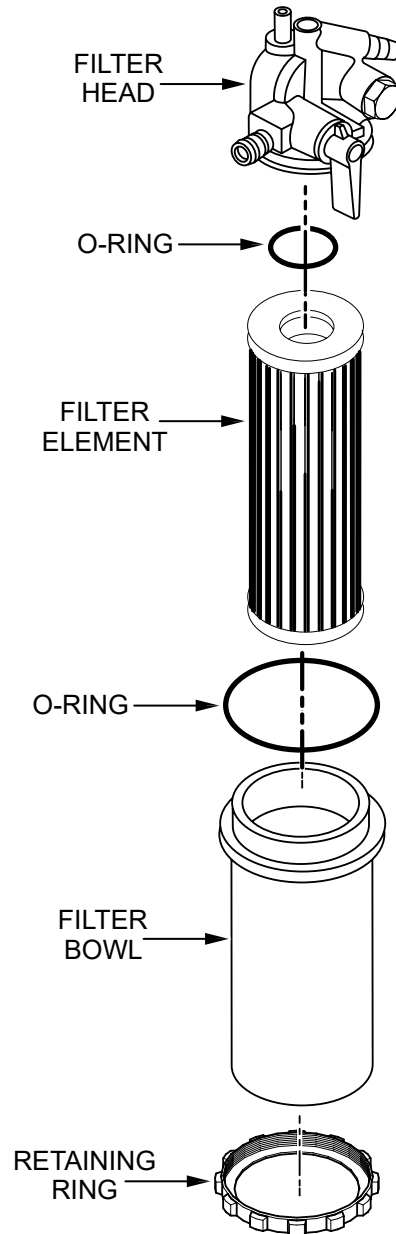

Figure 47. Fuel Filter Disassembly
3. Unscrew the **filter bowl** (Figure 47) from the **filter head**.
4. Rinse the inside of the **filter head** and the **filter bowl** (Figure 47) with diesel fuel.
5. Remove the **filter element** (Figure 47) and rinse it with diesel fuel.
1. Unscrew the **filter bowl** from the **filter head** (Figure 47).
2. Remove the **filter element** (Figure 47) and replace it with a new one.
3. Replace the larger (filter bowl) **O-ring** (Figure 47) and coat it with a small amount of clean 15W-40 engine oil.